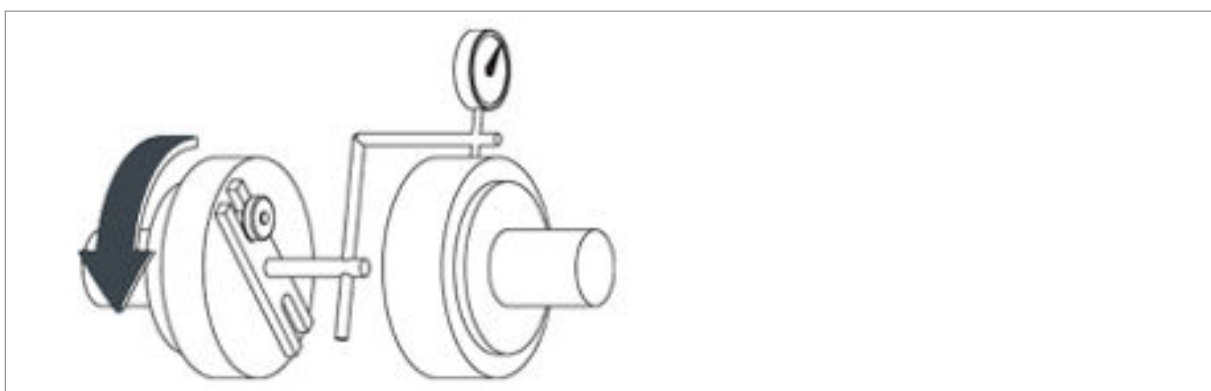

Fig. 21: Checking the lateral and height offset
- Carry out measurement as shown (Fig. 21).